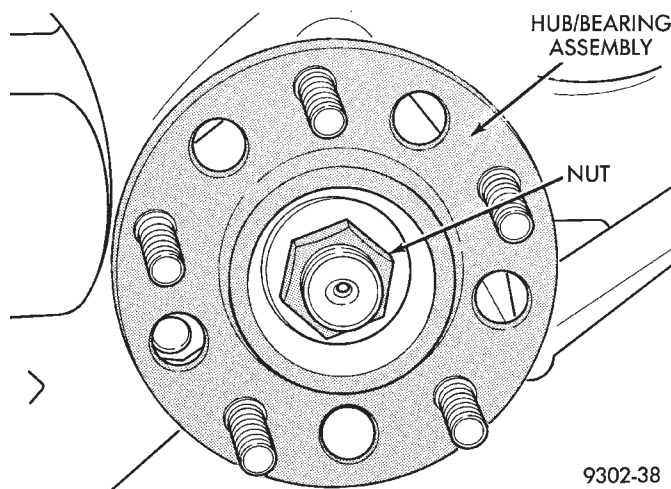

Fig. 17 Hub And Bearing To Stub Axle Retaining Nut
(8) Install a **NEW** hub and bearing assembly to stub shaft retaining nut (Fig. 17). **Tighten, but do not torque the hub nut at this time.**
(9) Install speed sensor cable routing bracket on front strut assembly. Install and securely tighten routing bracket screw.